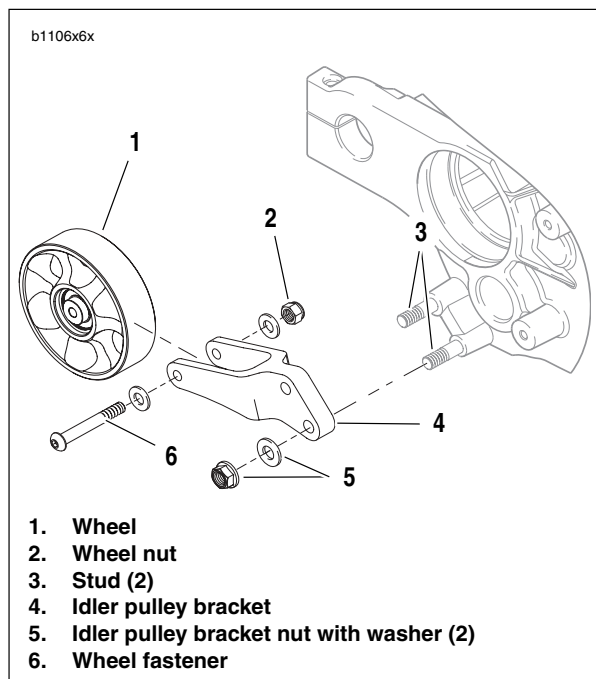

Figure 6-100. Idler Pulley Assembly
4. See Figure 6-100. Remove both bracket nuts with washers (5) attaching idler pulley bracket (4) to studs (3).
6. Inspect pulley by spinning wheel (1) and checking for excessive wheel bearing wear. See INSPECTION/1.10 DRIVE BELT.
7. If pulley wheel needs replacement, remove fastener (6) and nut (2) from idler pulley bracket (4) and discard. Replace with **new** pulley wheel (1).